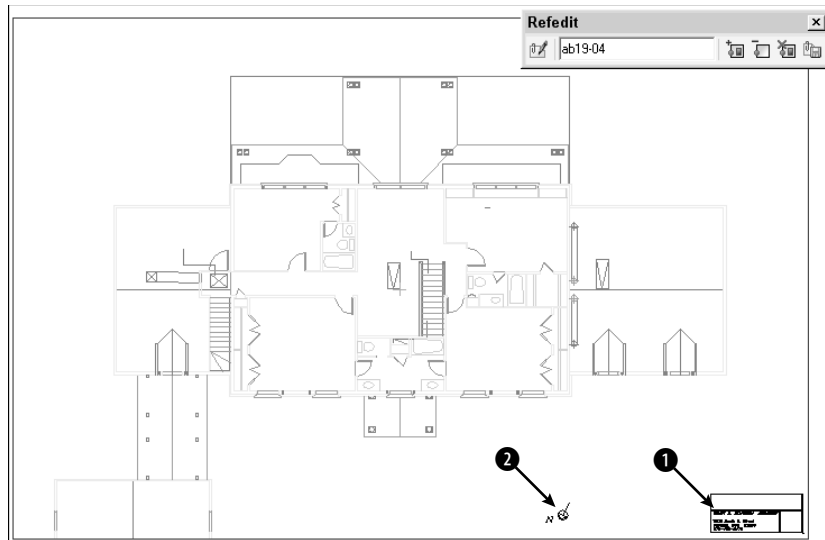

Figure 19-7: The title block is an xref in the drawing of the floor plan.
4. Double-click the title block. The Reference Edit dialog box opens. Choose `ab19-04.dwg`. It is displayed in the preview box. Click OK. The Refedit toolbar opens. You can now edit the xref. Your screen should look like Figure 19-7.
6. Choose Draw ⇨ Text ⇨ Single Line Text. At the Specify start point of text or [Justify/Style]: prompt, pick ① in Figure 19-7. At the Specify height <0'-0 3/16">: prompt, type 10 ↵. Press Enter again for the rotation angle.
9. Select the letter N and arrow symbol at ② in Figure 19-7. To transfer these objects from the xref to the floor plan drawing, choose Remove Objects from Working Set from the Refedit toolbar.